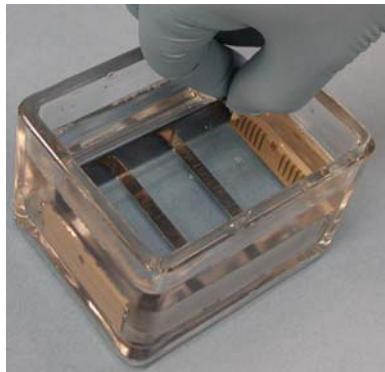

Figure 45 Placing BeadChips in Wash Dish Containing WB1
5. Carefully slide each BeadChip into the wash rack, making sure that it is completely submerged in the WB1 (Figure 45).